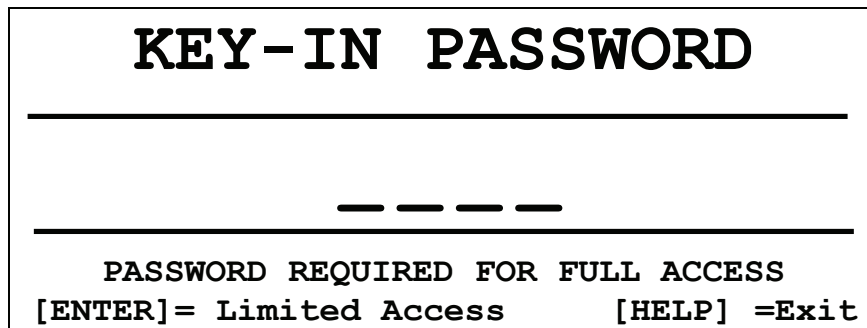

Figure 9: Key - In Password Screen
1. From the weigh mode press [HELP], then [ENTER/YES] to display the password screen (see Figure 9).
2. Key in the 4-digit password to access the Setup Mode as shown in Figure 9 (see section 3.1.1 for password information).